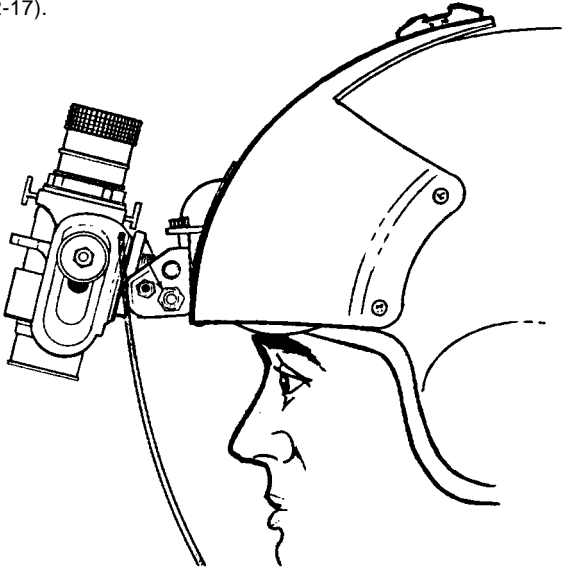

Figure 2-17. Goggles in stowed position.
a. Short Periods. Place goggles in stowed position (fig. 2-17).